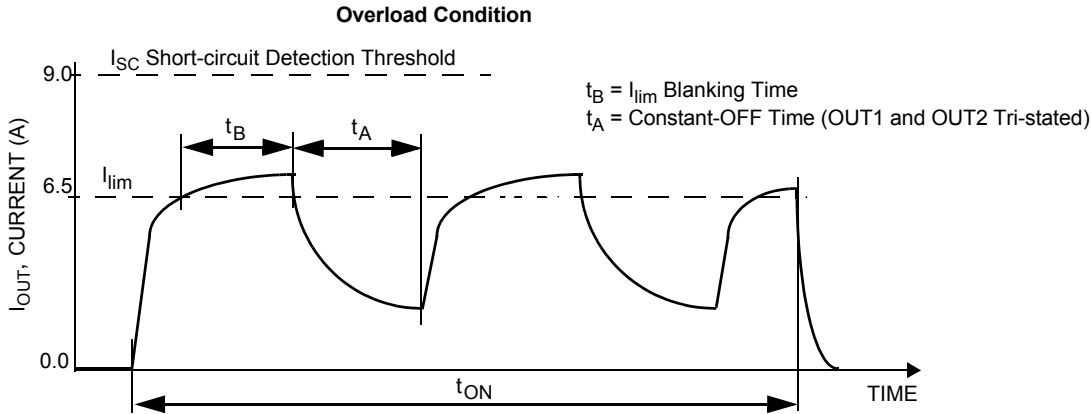
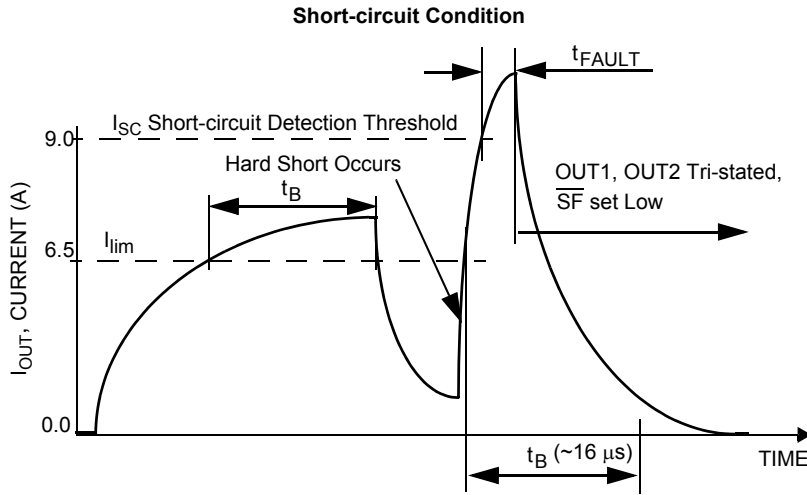
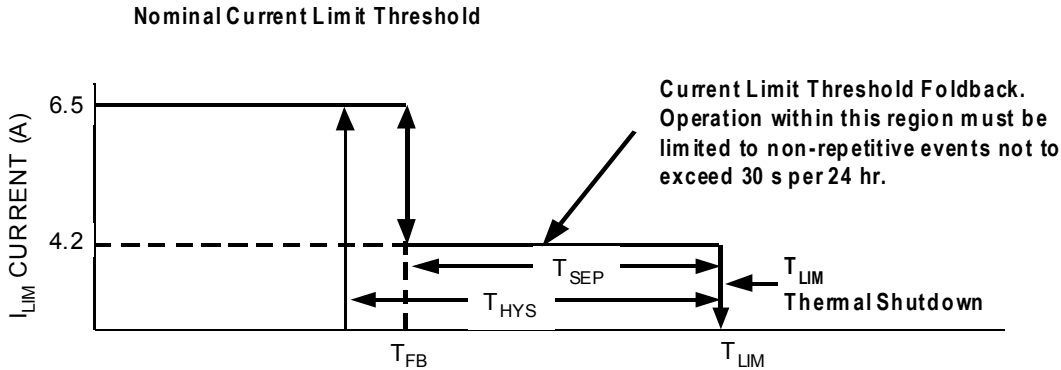

Figure 7. Current Limit Blanking Time and Constant-OFF Time
Figure 8. Short-circuit Detection Turn-OFF Time  $t_{FAULT}$
Figure 9. Output Current Limiting Foldback Region
28. Load currents ramping up to the current regulation threshold become limited at the  $I_{\text{LIM}}$  value (see Figure 7). The short-circuit currents possess a  $di/dt$  that ramps up to the  $I_{\text{SCH}}$  or  $I_{\text{SCL}}$  threshold during the  $I_{\text{LIM}}$  blanking time, registering as a short-circuit event detection and causing the shutdown circuitry to force the output into an immediate tri-state latch-OFF (see Figure 8). Operation in Current Limit mode may cause junction temperatures to rise. Junction temperatures above  $\sim 160^{\circ}\text{C}$  will cause the output current limit threshold to "fold back", or decrease, until  $\sim 175\text{ }^{\circ}\text{C}$  is reached, after which the  $T_{\text{LIM}}$  thermal latch-OFF will occur. Permissible operation within this fold back region is limited to non-repetitive transient events of duration not to exceed 30 seconds (see Figure 9).